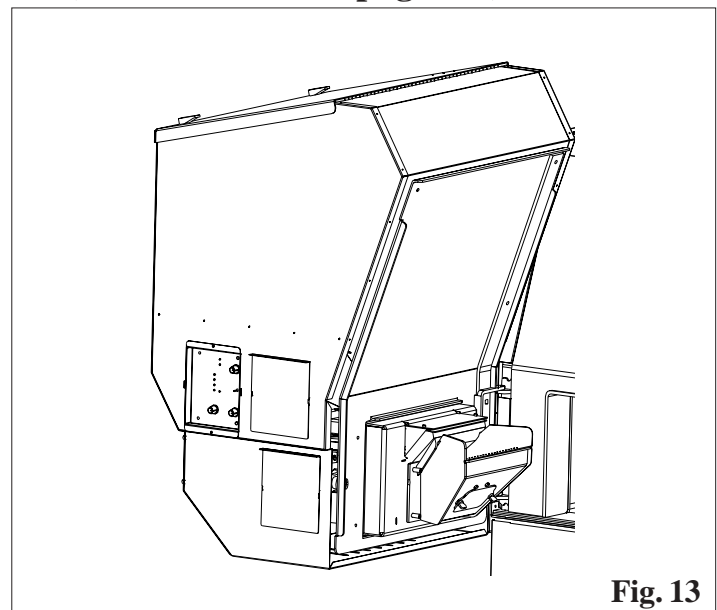

Fig. 13
7. Open hopper swing plate as shown in Fig. 13 (See “NOTE” on page 23.)